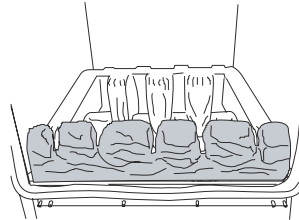

Figure 20 – Front Ceramic
2. Gently lift the rear ceramic so that the front ceramic slides in easily. Place the front burner ceramic in its support, in front of the burner, as in **FIGURE 20**.